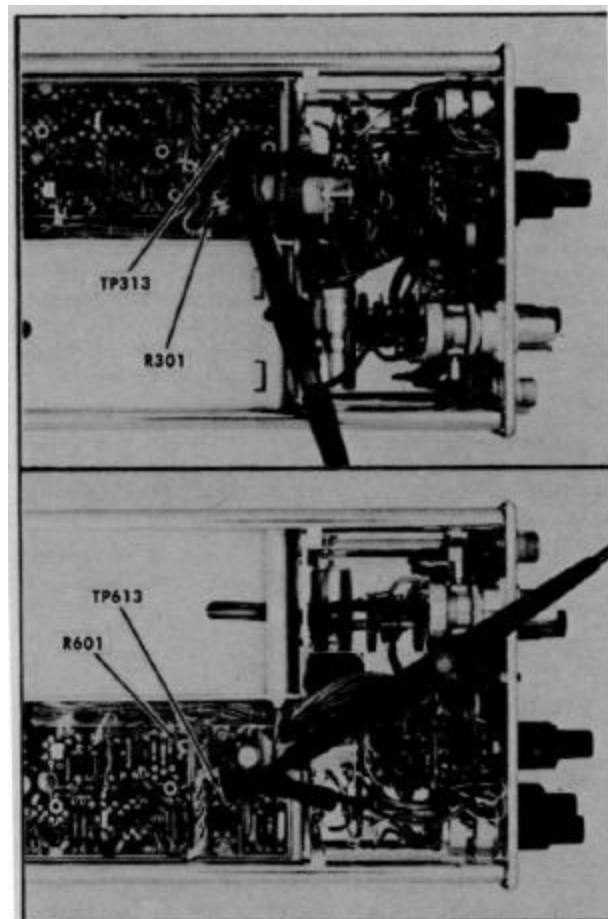

Fig. 8-22. Test points and adjustments for Step 15.
Connect the 1X Probe ground clip to the Type 3S1 frame near TP313, and connect the probe tip to TP313, as shown in Fig. 8-22.
d. Subtract the two Comparison Voltage recorded values. The difference should be 6 volts. If it is other than 6 volts, adjust the Type 3S1 internal Digital Gain control, R301 shown in Fig. 8-22, until the two voltage readings are 6 volts different.
e. Repeat the step for Channel B; test point and adjustments are shown in Fig. 8-22.